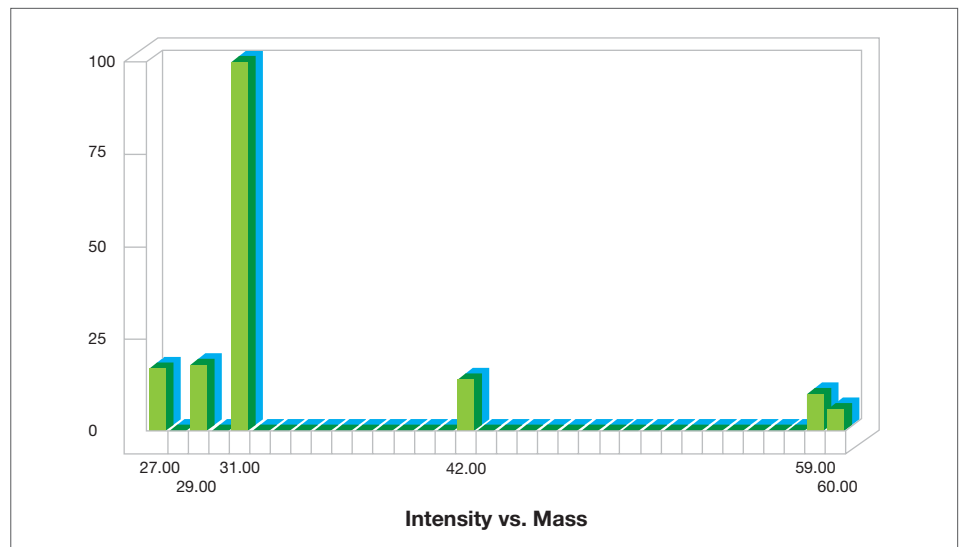
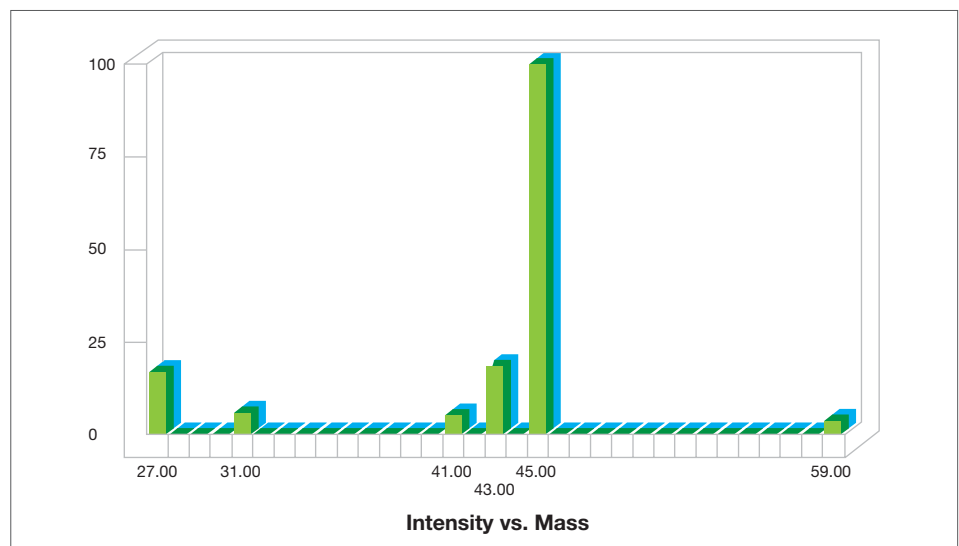

Figure 1. Fragmentation pattern for n-propanol as generated by the Thermo Scientific™ GasWorks Software.
Figure 2. Fragmentation pattern for iso-propanol as generated by the Thermo Scientific™ GasWork Software.
- Using the fragmentation patterns of the molecules in the mass spectrometer's ion source which are effectively 'fingerprints' to simplify the analysis of even complex mixtures; for example, figure 1 shows the fragmentation pattern for n-propanol while figure 2 shows that of iso-propanol.